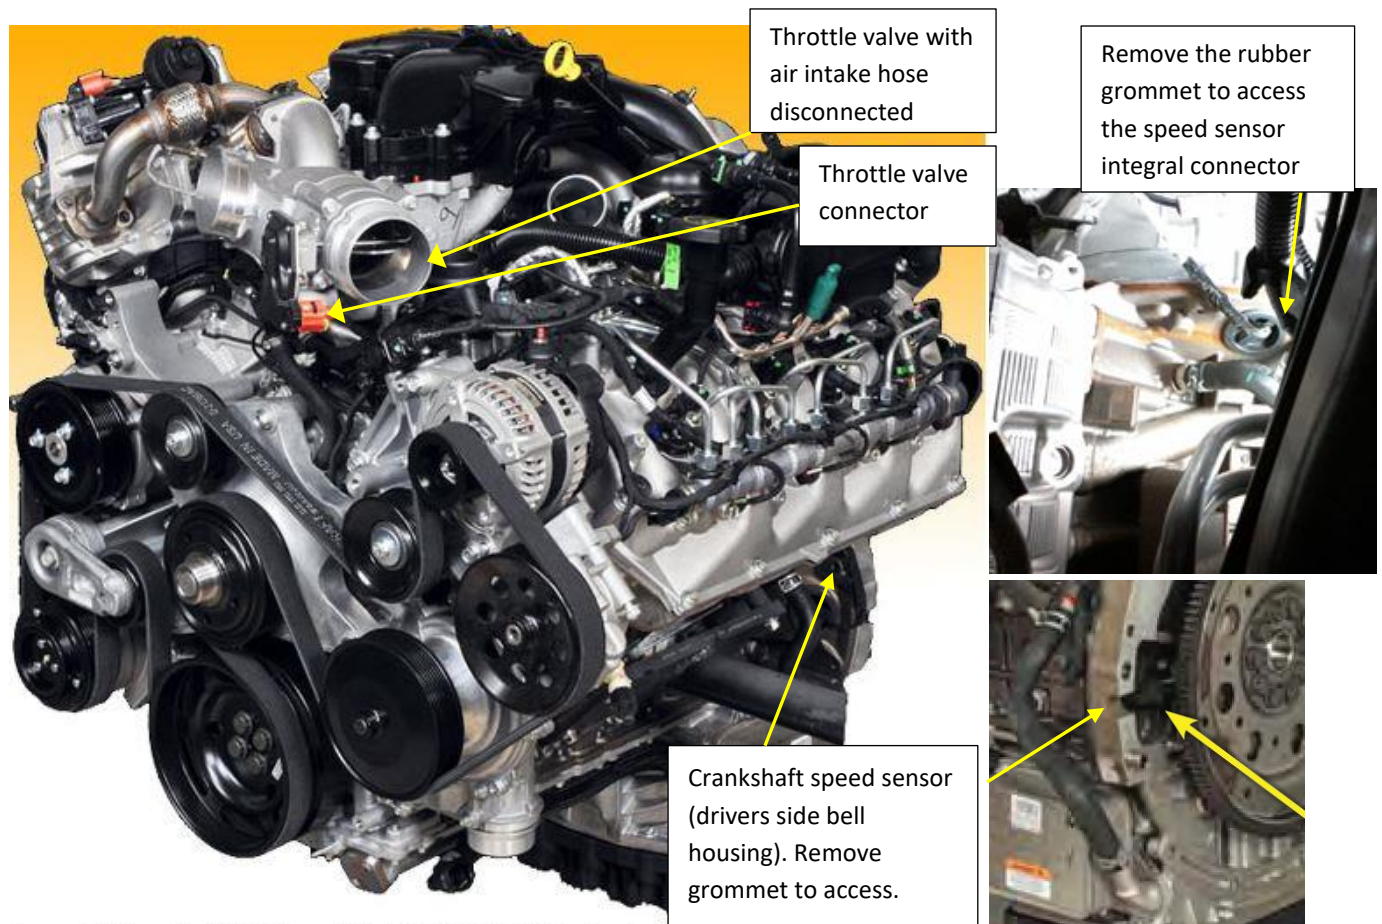
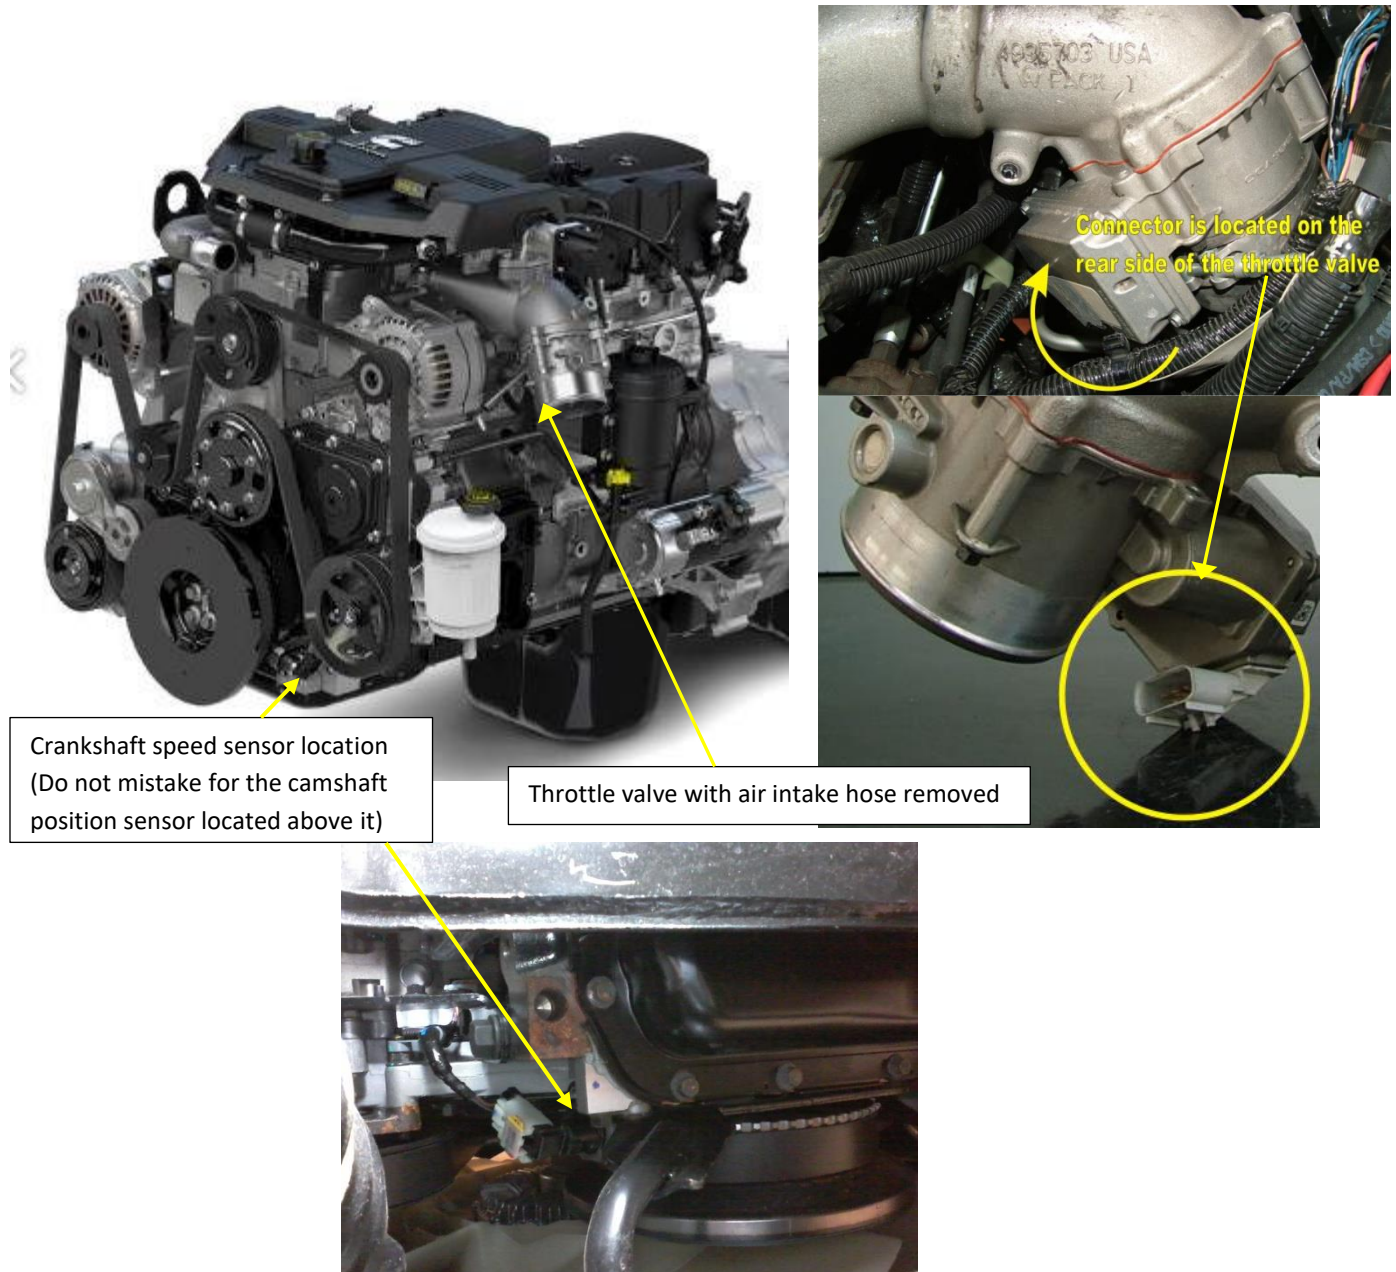
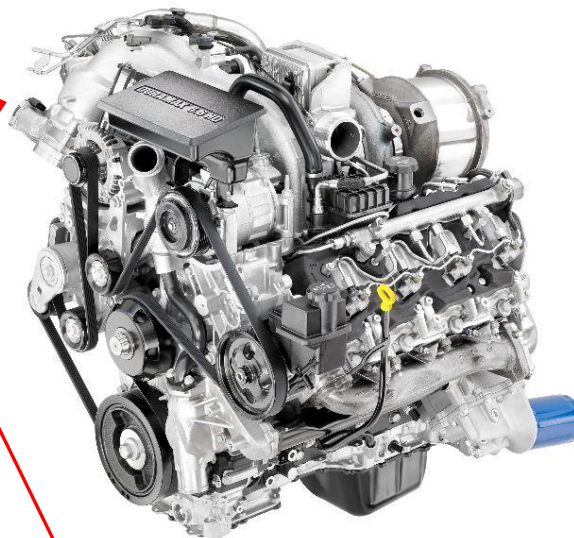
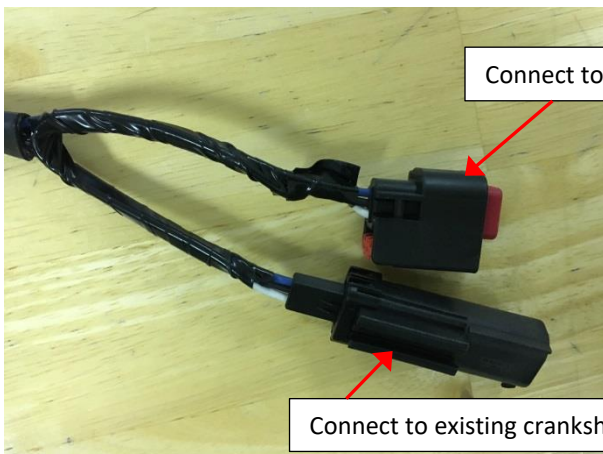

FIGURE 1: Location of valve port and crankshaft speed sensor on the Ford 6.7L engine
FIGURE 2: Location of valve port and crankshaft speed sensor on the Dodge 6.7L engine
FIGURE 3: Location of valve port and crankshaft speed sensor on GM Engine
FIGURE 9: Ford Speed Sensor Connections
1. Open the engine bay and note the location of the integral connection on the throttle valve and the location of the crankshaft speed sensor. The locations will differ depending on the vehicle's make and model. For Ford 6.7L, see Figure 1. For Dodge 6.7L, see Figure 2. For GM 6.6L Year 2012-2016 and Year 2017, see Figure 3. For Dodge Eco-Diesel 3.0L see Figure 4.
5. Disconnect the existing vehicle female connector from the crankshaft speed sensor integral connector located in Step 1 (see Figure 1 for Ford, Figure 2 for Dodge, Figure 3 for GM, Figure 4 for Dodge Eco-Diesel) by pressing down on the connector tab. **Note:** the connector locks must be slid open first to allow disconnection (similar in appearance to the ones in Figure 5 thru 8).
6. On the kit harness assembly, find the 3-pin male and female connector. The connector will look different depending on the vehicle – see Figures 9 thru 12. Connect to the crankshaft speed sensor integral connector located in Step 1, and as shown in Figures 9 thru 12 (If operating a GM 6.6L Year 2017, connect the 8-pin male connector on the harness to the 8-pin female connector circled in Figure 3). The kit harness female connector should connect to the crankshaft position sensor and the male connector should connect to the vehicle female connector that was previously installed to the crankshaft position sensor. Remember to slide the CPA (connector lock) into place once connected.